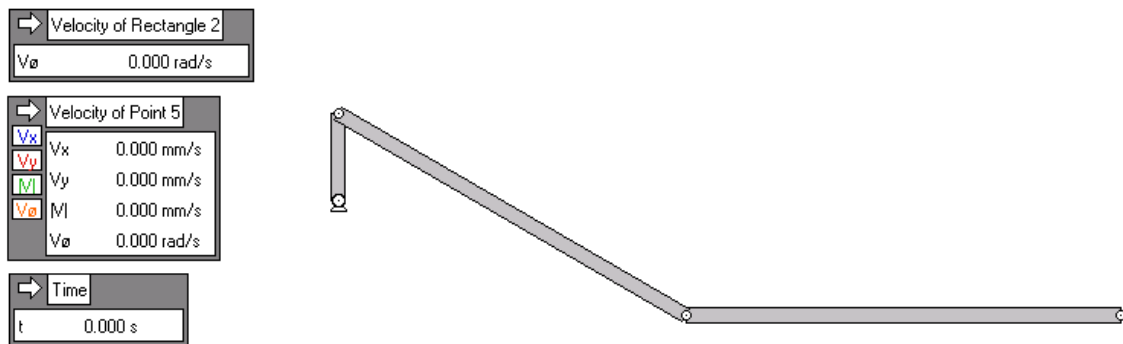

Figure 8
5. Click on Time on the Measure menu to place the time graph. Now, the workspace should look similar to the following Figure 8.